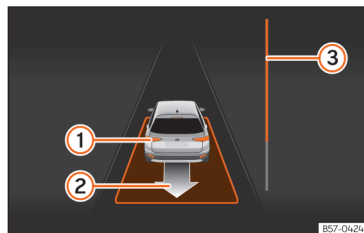

Fig. 146 On the instrument panel display: driving off from perpendicular parking.
- Reverse until the continuous ParkPilot signal sounds; **OR**: reverse until the instrument panel display shows the forward indication. The progress bar >>> Fig. 146 ③ indicates the distance to cover.